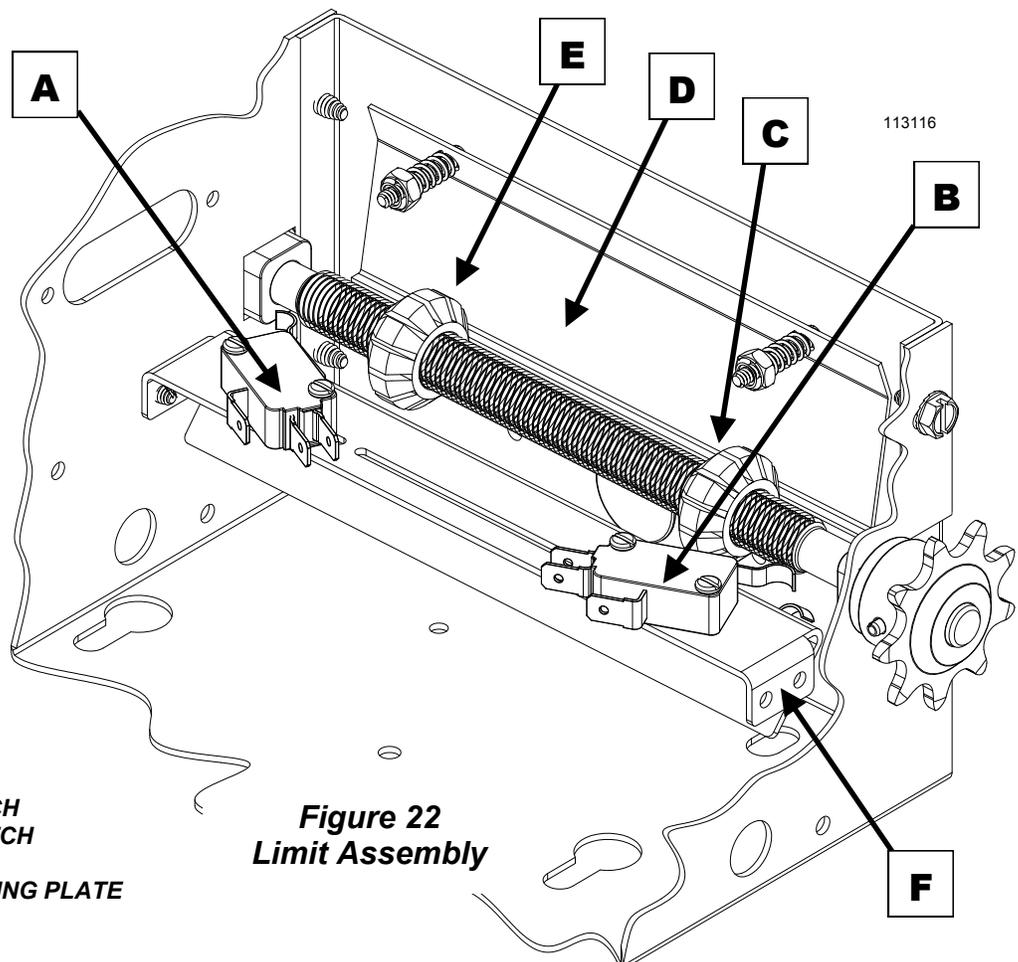

Figure 22
1) With the cover open on the electrical enclosure, reference Figure 22 below. There are two (2) switches (A and B) mounted to the 'V' bracket (F). The switches are activated by the two limit nuts (C and E) on the threaded shaft which move laterally along the shaft as the operator opens and closes the door. When a limit nut nears the end of the shaft it activates a switch, that send a message back to the motor control board to stop the door. Follow either 2 or 2A below depending on how the door and trolley are orientated.
2) For original installation setting, the door (connected as normal to the operator trolley) should be positioned approximately 4 inches shy of the fully closed position. If this is the case, depress the Limit Nut Retention Plate (D) so it disengages from the slots in the limit nuts and move the Close Limit Nut (C) on the shaft until it engages the Close limit Limit Switch (B) (see Step 5 for an explanation of the Close limit function). You will need to listen for an audible click. Move the Open Limit Nut (E) to the center of the threaded shaft. Release the retaining bracket and be sure that it engages in slots of both limit nuts.